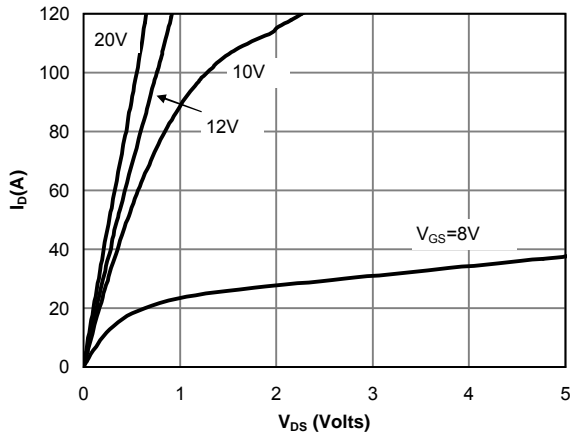

Figure 1: On-Region Characteristics
E. The static characteristics in Figures 1 to 6 are obtained using  $< 300\mu\text{s}$  pulses, duty cycle 0.5% max.